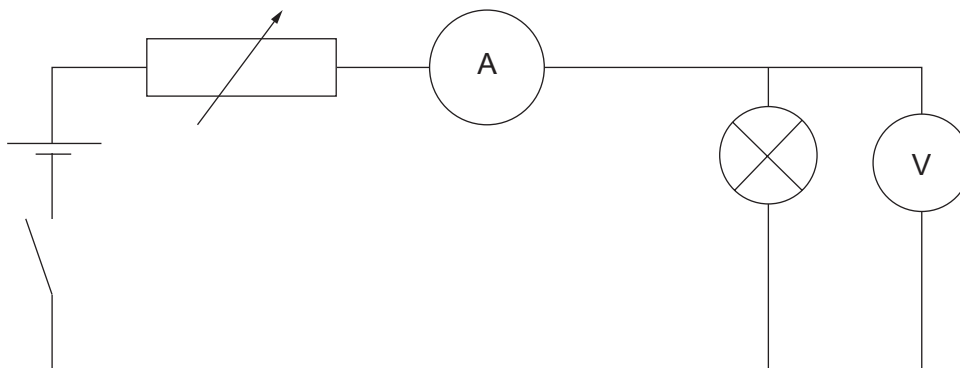

Fig. 2.1
- (a) The circuit shown in **Fig. 2.1** has been set up.